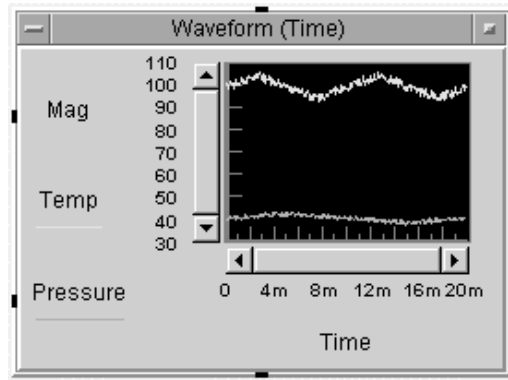

Figure 3. Graphs of the Vehicle Radiator last test
Also included is a graphic (Figure 3) that indicates how much the temperature and pressure deviate from a given value that is 100°F for the temperature and 40 psi for the pressure during the last test. This presentation changes somewhat for each of the six tests.
11. Choose a title for Figure 3.